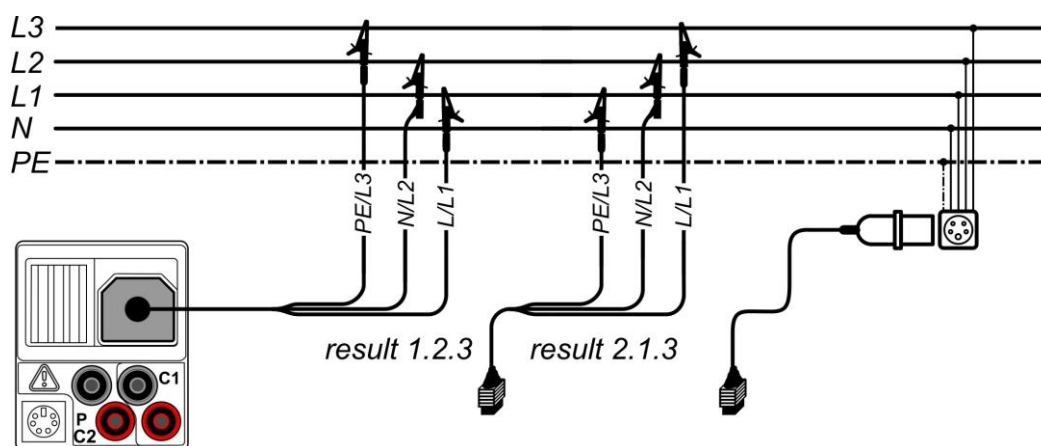

Figure 5.2: Connection of 3-wire test lead and optional adapter in three-phase system
- ❑ **Connect** test leads to the item to be tested (see figures 5.2 and 5.3).